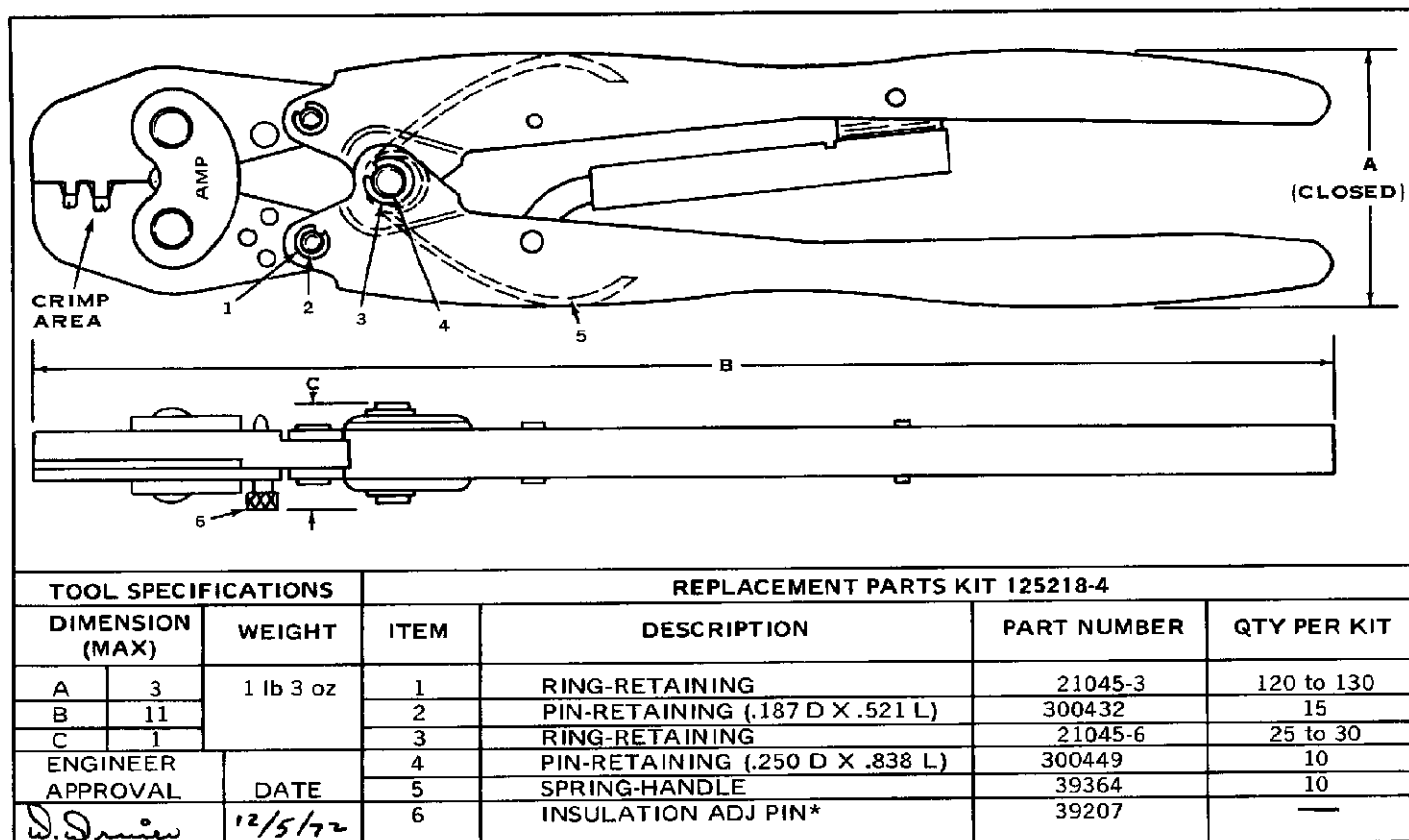

FIGURE II-1
The parts listed in Figure II-1 are customer replaceable parts. A complete inventory should be stocked and controlled to prevent lost time when replacement of parts is deemed necessary. When ordering, order the replacement parts kit listed in Figure II-1.
2. Make certain all retaining pins are in place and secured with retaining rings. Refer to parts listed in Figure II-1 if replacements are necessary.
Parts other than those specified in Figure II-1 must be replaced by AMP to insure certification of the tool. When repair is necessary, return the tool and a written description of the problem to: